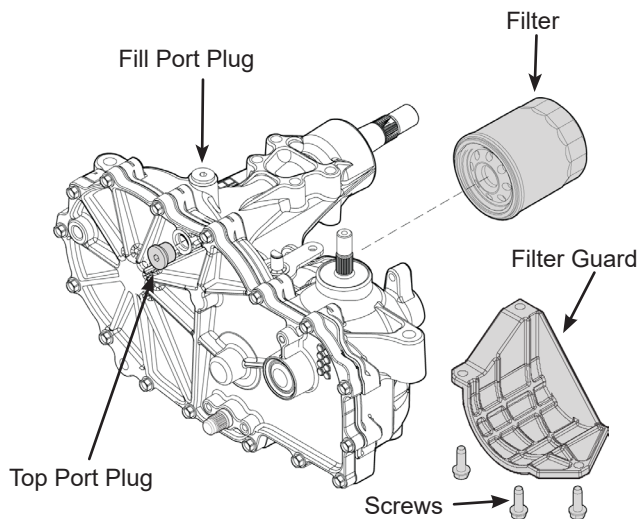
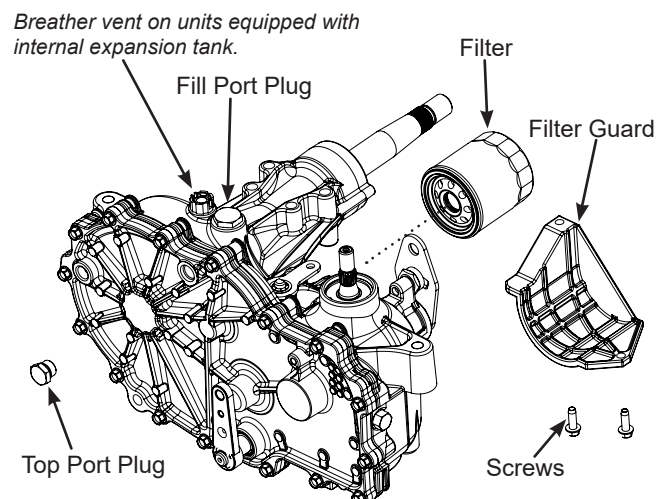

Figure 5, Unit Without Internal Expansion Tank
Figure 6, Unit With Internal Expansion Tank
Certain situations may require additional fluid to be added or even replaced. Refer to page 10 and figure 5 for the proper fill port location.
1. Remove the three 1/4" filter guard screws and filter guard as shown in figure 5 or the two 1/4" filter guard screws and filter guard as shown in figure 6. Clean any loose debris from around the perimeter of the filter. See figures 5 and 6.
8. Remove the top port plug (figure 6) from the left side and right side transaxles prior to filling with oil. This will allow the transaxles to vent during oil fill.
- Note: For units that do not have an external expansion tank remove the fill port plug on the top of the housing (figure 6).**
10. Fill with 20W50 motor oil until oil just appears at the bottom of each transaxle's top port (approximately 2 qts. per transaxle, 4 qts. total). Install the top port plug into each transaxle as the oil level reaches this port. See Figure 6.
Note: For units that do not have an external expansion tank replace the fill port plug on the top of the housing (figure 6), torque to 120 in. lbs. and proceed to the purge procedure on page 12.